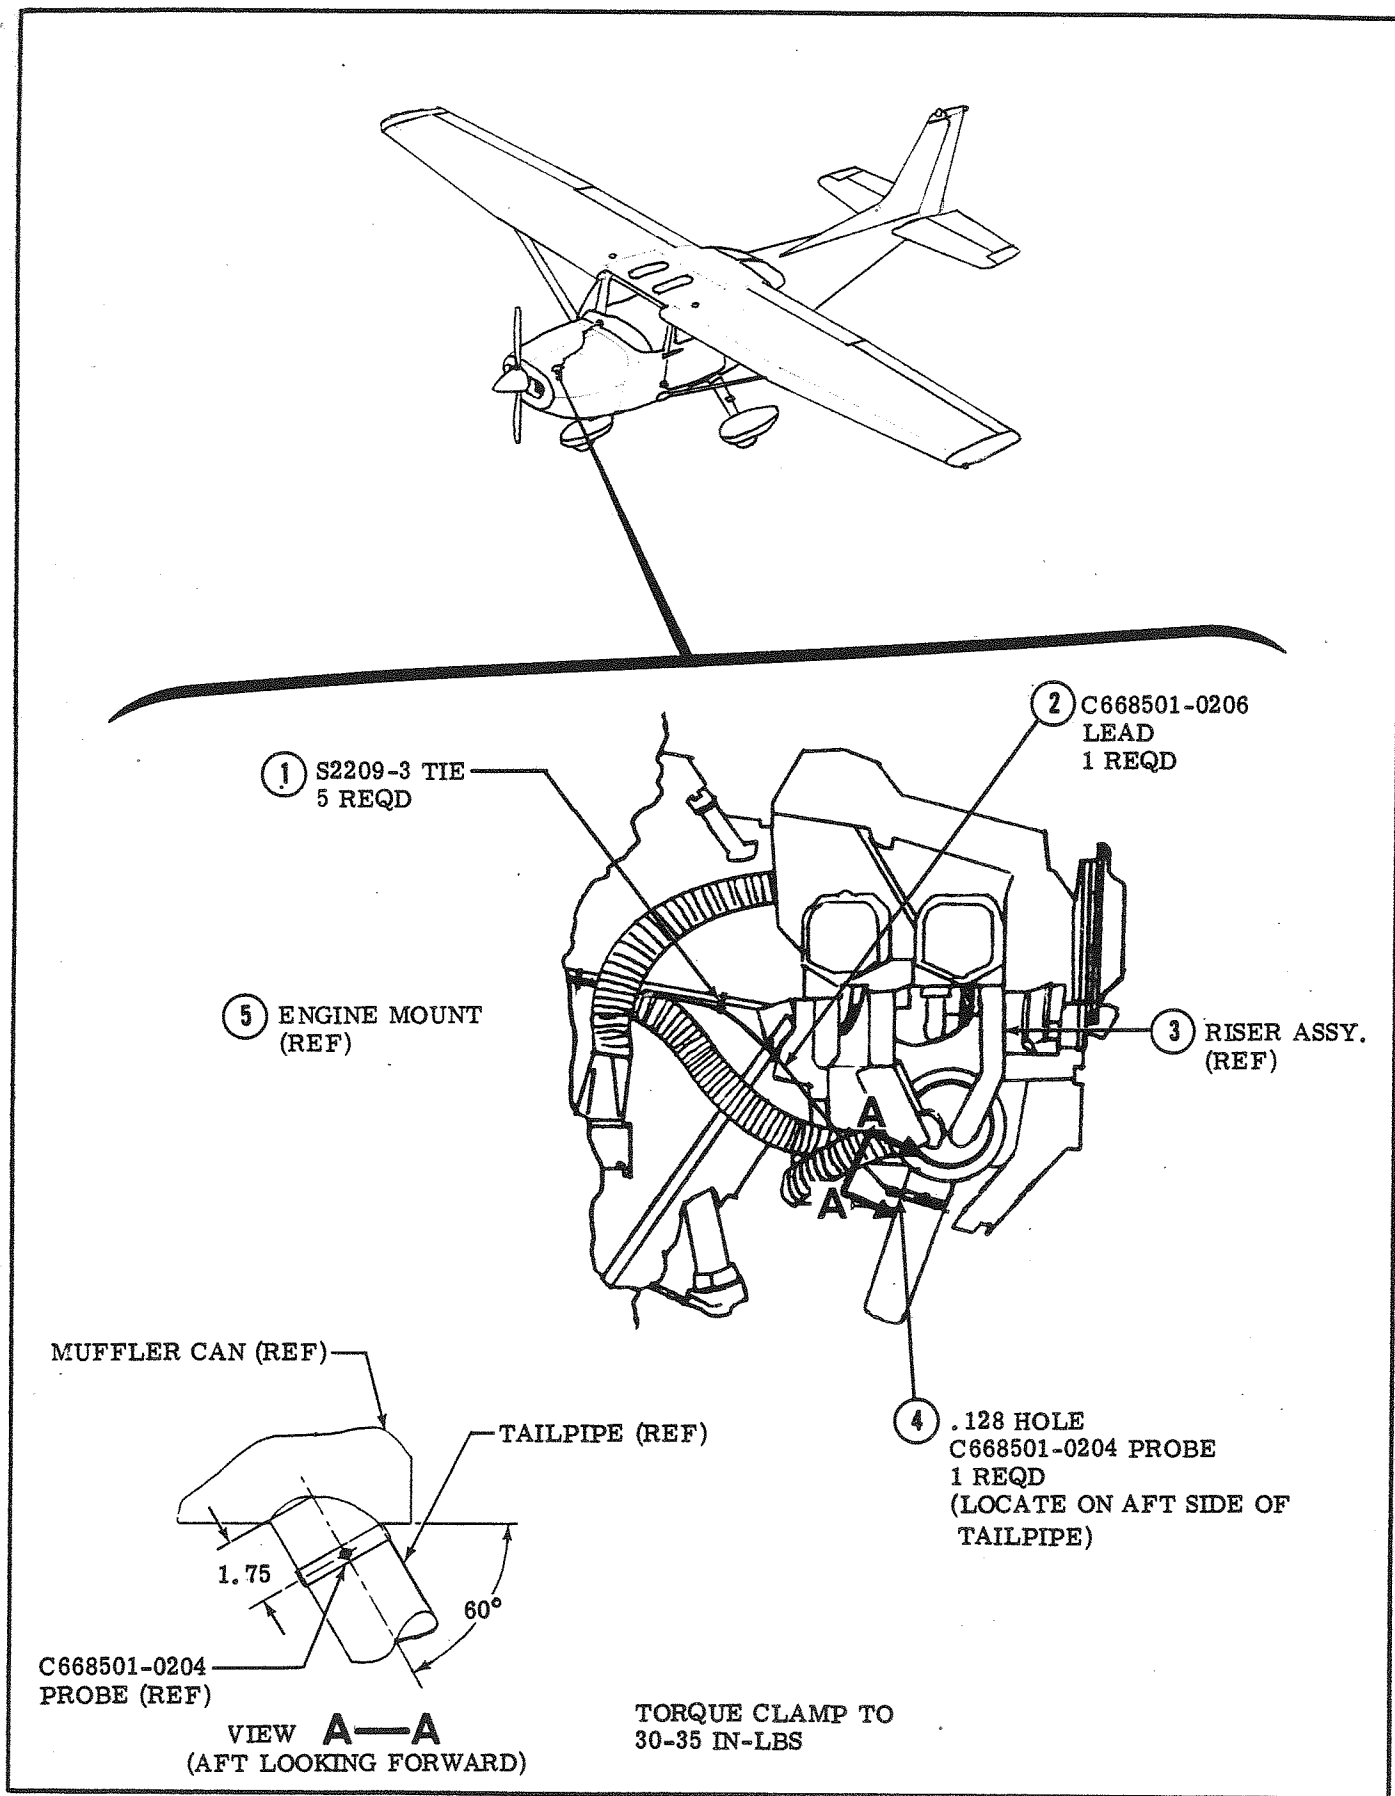

Figure 1. Probe & Thermocouple Lead Installation.
a. (Refer to figure 1.) Installation of sensing probe.
- (1) Remove cowling from aircraft.
- (2) Locate and drill hole (4) on aft side of tailpipe as shown, using .120 (#31) drill, ream to size using .128 reamer. A press fit of probe shoulder in hole is necessary.
- (3) Install probe (4) in hole and tighten clamp. Torque clamp screw to 30-35 in-lbs. Secure clamp screw with safety wire as required.
- (1) Remove decorative cover (4) from instrument panel.
- (2) Locate and cut 2.25" diameter hole in decorative panel cover as shown.
- (3) Install indicator (2) in panel (3) with screws, nuts, and washers (1).
- (4) Reinstall decorative panel cover (4).
c. (Refer to figure 1.) Thermocouple Lead Installation.
- (1) Route thermocouple lead (2) as shown and clamp with ties (1) as required. Route through firewall with existing wire bundle.